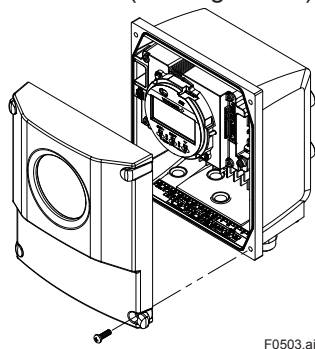

Figure 5.3 Removing the cover
(1) Remove the cover (See Figure 5.3).